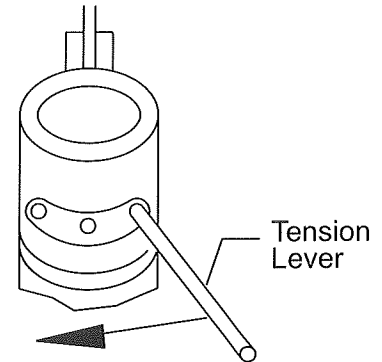

FIGURE 1
- ( B ) Insert Tension Lever in right hand hole in the adjustment slot see figure 1.